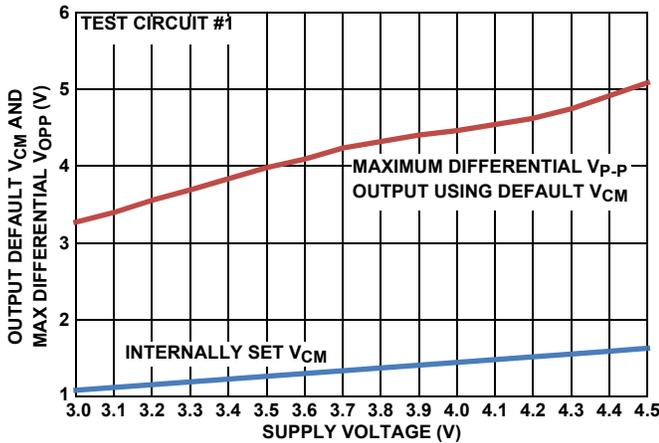
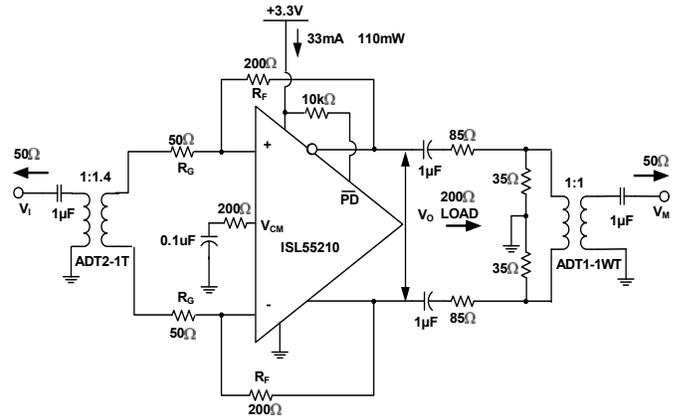

FIGURE 26. DEFAULT V_{CM} AND MAX V_{OPP} vs SUPPLY VOLTAGE
FIGURE 28. TEST CIRCUIT #1
The circuit of Figure 28 forms a starting point for many of the characterization curves for the ISL55210. Since most lab sources and measurement devices are single-ended, this circuit converts to differential at the input through a wideband transformer and would also be a typical application circuit coming from a single ended source. Assuming the source is a 50Ω impedance, the R_G resistors are set to provide both the input termination and the gain. Since the inverting summing nodes act as virtual ground points for AC signal analysis, the total termination impedance across the input transformer secondary will be $2 * R_G$. Setting this equal to $n^2 * R_S$ will give a matched input impedance inside the bandwidth of the transformer (where "n" is the turns ratio). The amplifier gain is then set by adjusting the feedback resistors
Working with a transformer coupled input as shown in Figure 28, or with two DC blocking caps from a differential source, means the output common mode voltage set by either the default internal V_{CM} setting, or a voltage applied to the V_{CM} control pin, will also appear as the input common mode voltage. This provides a very easy way to control the ISL55210 I/O common mode operating voltages for an AC coupled signal path. The internal common mode loop holds the output pins to V_{CM} and, since there is no DC path for an I_{CM} current back towards the input in Figure 28, that V_{CM} setting will also appear as the input common mode voltage. It is useful, for this reason, to leave any input transformer secondary centertap unconnected. The internally set V_{CM} voltage is referenced from the negative supply pin. With a single 3.3V supply, it is very close to 1.2V but will change with total supply voltage across the device as shown in Figure 26.
Most of the characterization curves start with Figure 28 then get different gains by changing the feedback resistor, R_F , use different input transformers where then the R_G is also adjusted to hold an input match, or vary the loading. For load tests below the 200 Ω shown in Figure 28, a simple added shunt resistor is placed across the output pins. For loads >200 Ω , the series and shunt load R's are adjusted to show that total load (including the 50 Ω measurement load reflected through the 1:1 output measurement port transformer) and provide an apparent 50 Ω differential source to that transformer. This output side transformer is for measurement purposes only and is not necessary for final applications circuits. There are output interface designs that do benefit from a transformer as part of the signal path, but the one shown at the right of Figure 28 is used only for characterization to get a doubly terminated 50 Ω measurement path going differential to single ended.
The characterization circuit of Figure 28 shows one possible input stage interface that offers several advantages. The ISL55210 can also support a DC coupled differential to differential or single ended input to differential requirement if needed. Where AC coupling is adequate, the circuit of Figure 28 simplifies the input common mode voltage control. If the source coming into this stage is single ended, the input transformer provides a zero power conversion to differential. The two gain resistors (R_G in Figure 28) provide both the input termination impedance and the gain element for the amplifier. For minimum noise, only R_G should be used and set to achieve the desired input impedance. Since the ISL55210 is a VFA device, these resistor values can be scaled up and down a bit more freely than a current feedback based FDA.
3.6V_{P-P} output capability. The V_{P-P} reported in Figure 26 is an asymmetrically clipped maximum swing. Going 10% above this 3.7V target to 4.1V will be within the recommended operating range and give some tolerancing headroom that would also suggest the V_{CM} voltage be moved up to approximately 1.5V. This coincides with the default output V_{CM} from Figure 26. Operating at +4.1V single supply in a Figure 28 type configuration will give the maximum linear available output swing of 3.6V_{P-P}.
The differential inputs of the ISL55210 also have operating range limits relative to the supply voltages. Operating in an AC coupled circuit like Figure 28 will produce an input common mode voltage equal to the outputs. The inputs can operate with full linearity with this V_{CM} voltage down to 1.1V above the GND connection (or -V_S supply). On the default 1.2V output V_{CM} on +3.3V supplies this gives a 100mV guardband on the input V_{CM} voltages. Overriding the default V_{CM} by applying a control voltage to the V_{CM} pin should be done with care in going towards the negative supply due to this limit. On the + side, the maximum V_{CM} above the -V_S supply is 2V so there is more room to move the output V_{CM} up than down from the default value.
Test circuit #1 (Figure 28) is implemented on an Evaluation Module Board available from Intersil. This board includes a number of optional features that are not populated as the board is delivered. The full EVM board circuit is shown in Figure 38 where unloaded (optional) elements are shown in green.